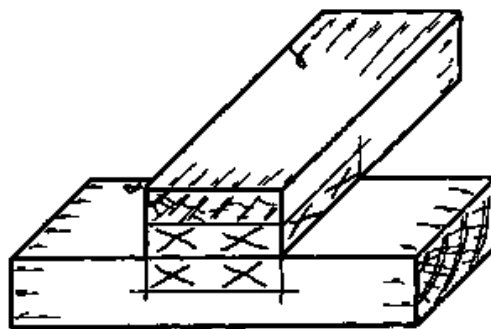

Fig. 4
- Place the pin over the position of the socket and check the fitting (Fig. 4, previous page).